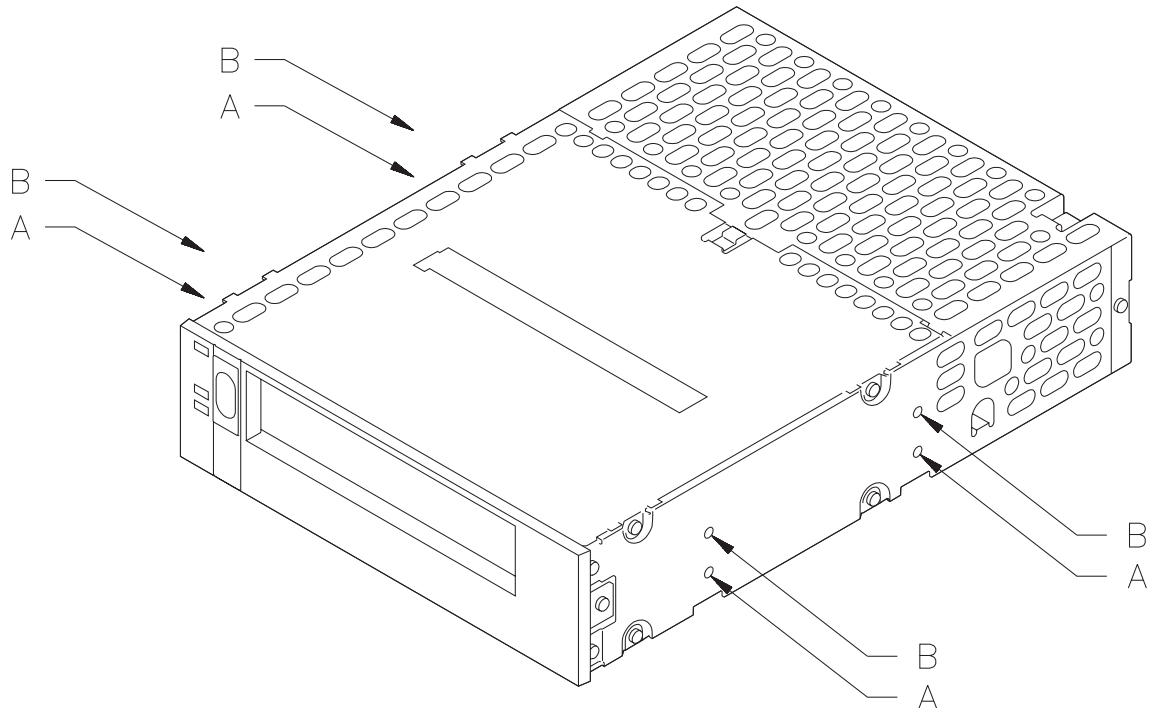
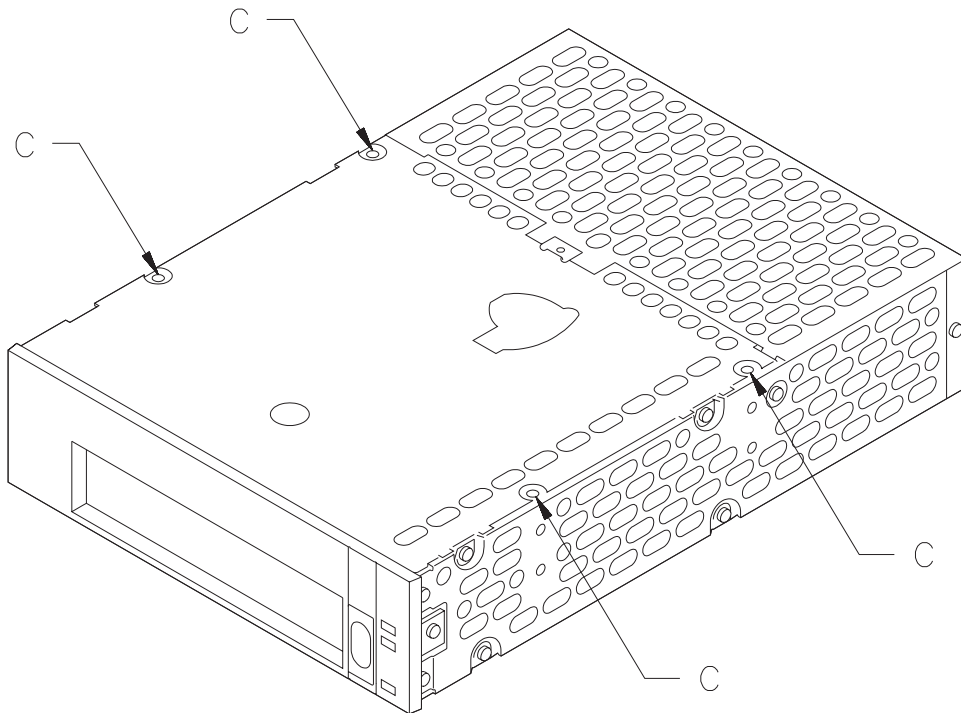

Figure 4-2 Mounting holes on the sides
Figure 4-3 Mounting holes on the bottom
- Use either one of the two sets of four mounting holes on the sides of the tape drive (shown as “A” or “B” in Figure 4-2) or the four mounting holes on the bottom of the tape drive (shown as “C” in Figure 4-3).